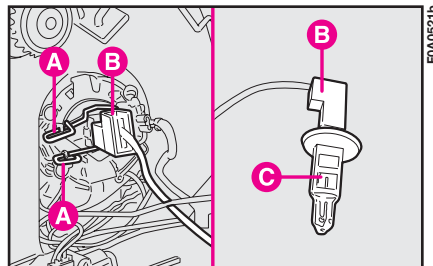

fig. 19
- 2) Release clip **A**-fig. 19, remove connector **B** and remove the bulb **C**.